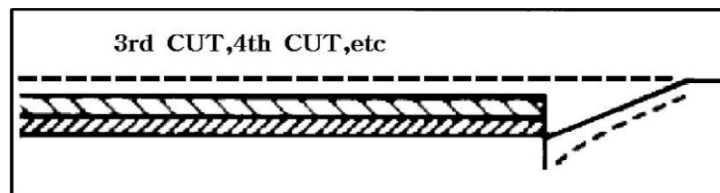

Fig 4.16. Addition of passes.
- Make additional passes until the desired depth is reached. During each pass, only use the bucket control while at working depth. This will allow you to concentrate on controlling the bucket angle to maintain a precise cut shown in figure 4.16.